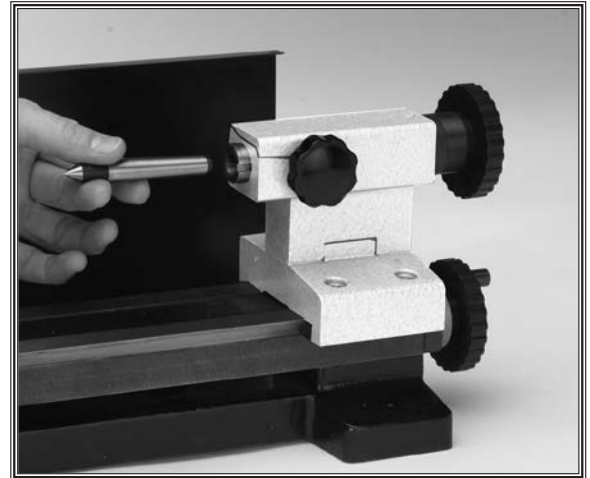

Figure 14. Inserting dead center.
2. Insert the dead center into the quill opening. Matching tapers provide the locking action (see **Figure 14**).